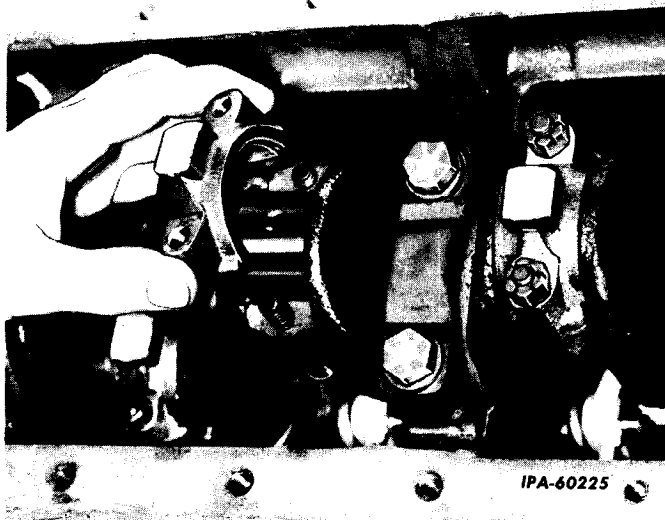

Fig. 4 - Removing Connecting Rod Bearing Cap
5. Remove the connecting rod bearing cap nut and bolt or bolt and lock, as the case may be. Remove the bearing cap (Fig. 4). Be sure that each bearing and cap can be identified with the connecting rod from which it was removed. Each connecting rod should be found numbered on the camshaft side of the rod, indicating its position in the engine.